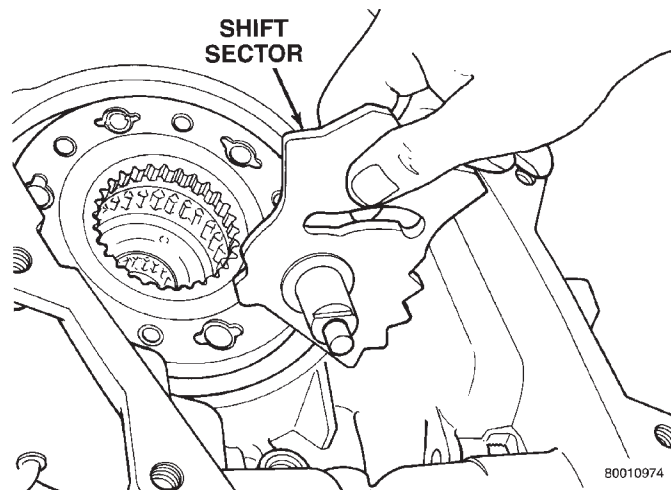

Fig. 37 Shift Sector Removal
- (9) Remove shift sector (Fig. 37).